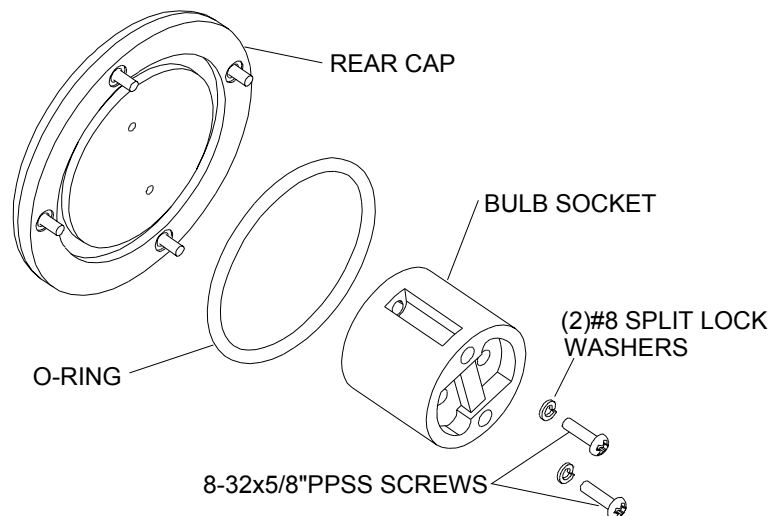

Figure 7.8 - Bulb Socket/O-ring Installation
13. At bulb side of socket, remove two 8-32x5/8"PPSS screws and #8 split lock washers securing lamp socket to rear cap (Figure 7.8).